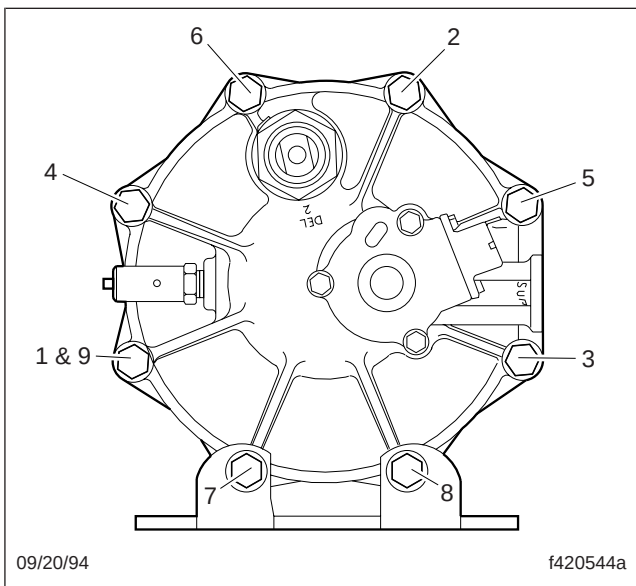
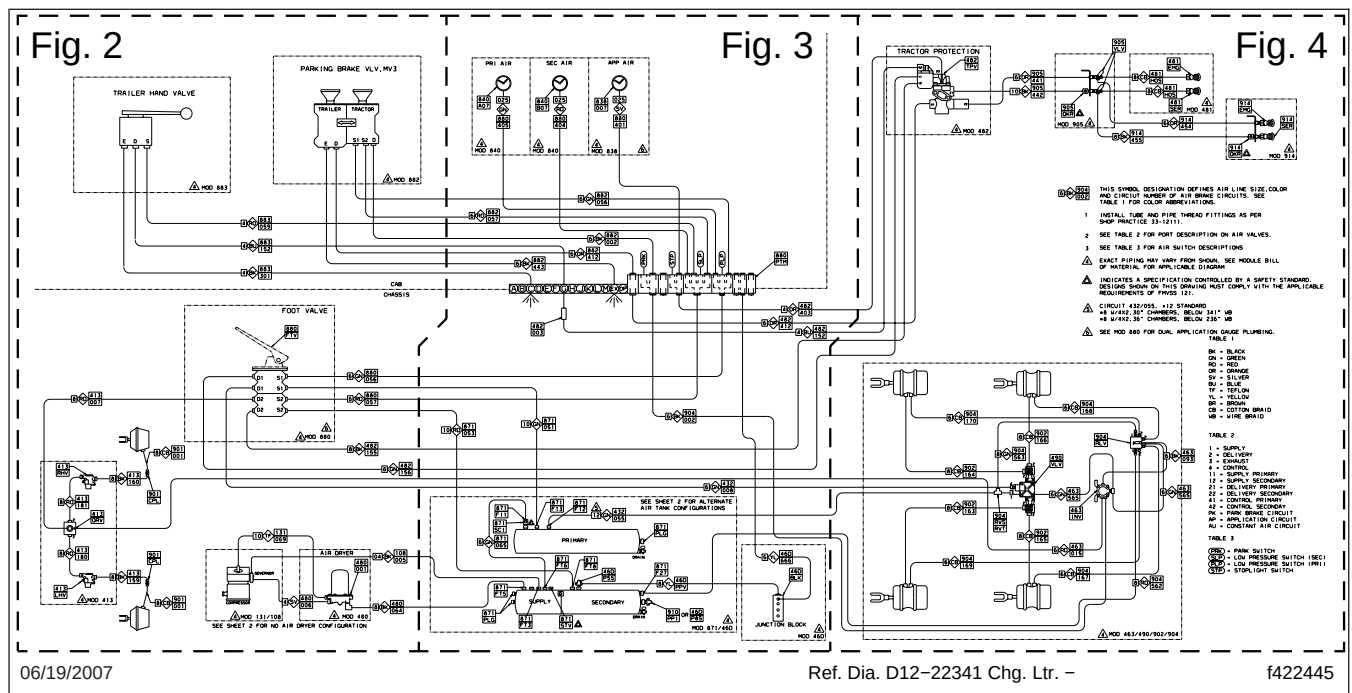
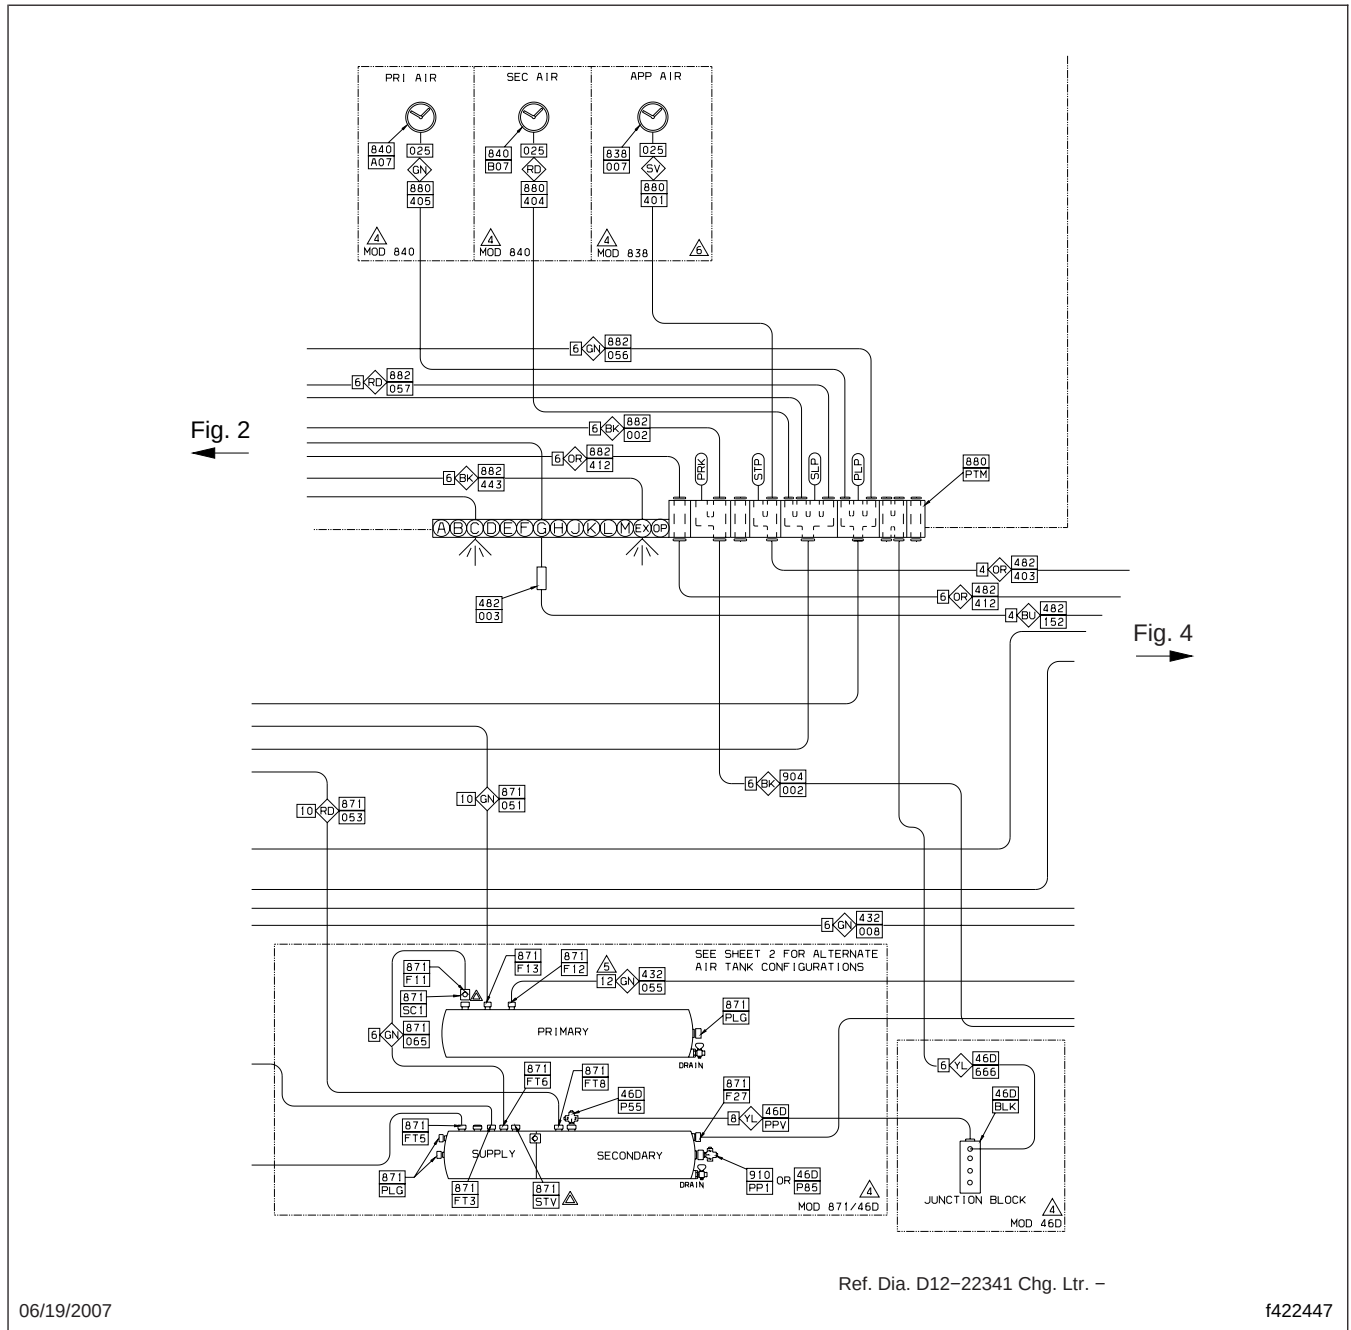
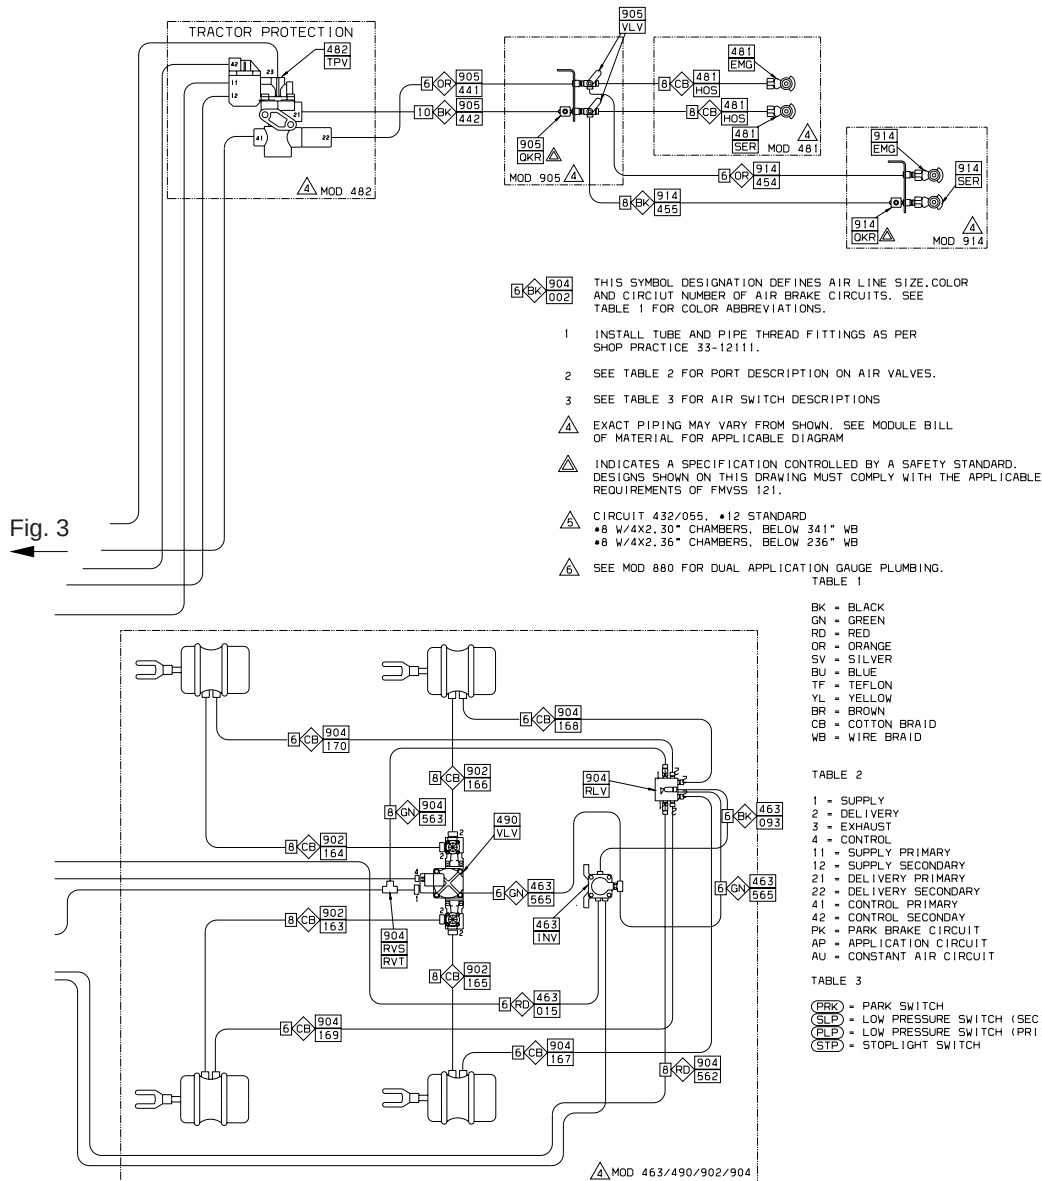

Fig. 2, End Cover to Housing Torque Pattern
Fig. 1, Air Brake Plumbing, Two Dash Valves/Conventional Air Dryer (full view)
Fig. 3, Air Brake Plumbing, Two Dash Valves/Conventional Air Dryer (partial view)
Fig. 4, Air Brake Plumbing, Two Dash Valves/Conventional Air Dryer (partial view)
- 6.3 Tighten the six bolts and nuts in a star pattern (depending on lower bracket location) 23 to 32 lbf-ft (31 to 43 N·m). See Fig. 2.
Figure 1 is a full view of the plumbing diagram for an air brake installation with two dash valves. (Freightliner diagram D12-22341). See **Fig. 2**, **Fig. 3**, **Fig. 4**, **Fig. 5**, **Fig. 6**, and **Fig. 7**, for partial views.